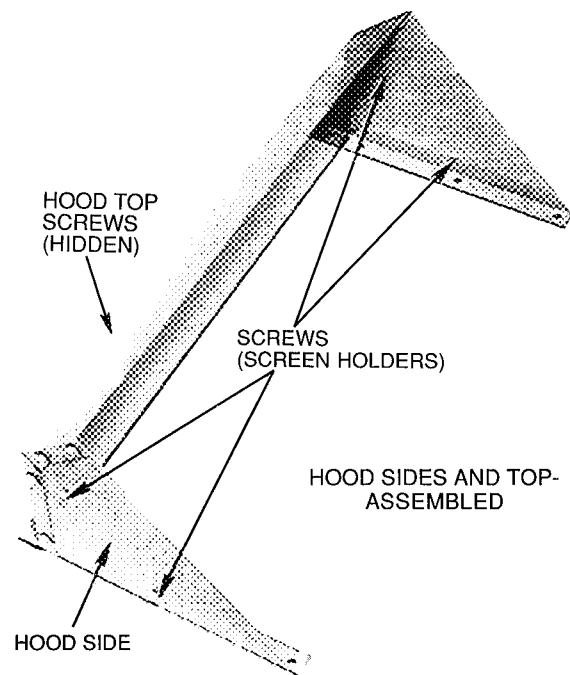
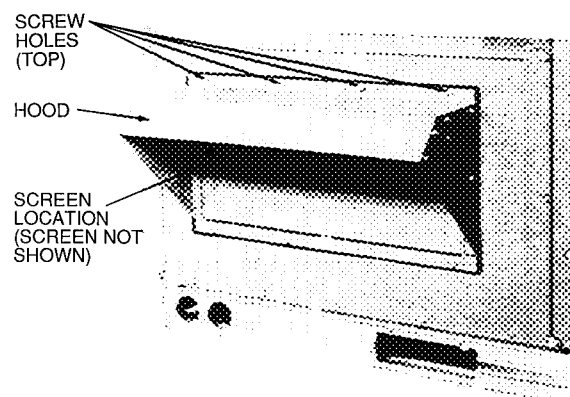

Fig. 12 — Outdoor-Air Hood Details
Fig. 13 — Outdoor-Air Damper with Hood Attached
5. Place hood on front of evaporator coil access panel. See Fig. 12 for hood details. Secure top of hood with the 4 screws removed in Step 3. See Fig. 13.
7. Align screw holes on hood with screw holes on side of manual outdoor-air damper assembly. See Fig. 12 and 13. Secure hood with 6 screws from Step 6.
9. Remove and save screws currently on sides of hood. Insert screen. Secure screen to hood using the screws. See Fig. 13.